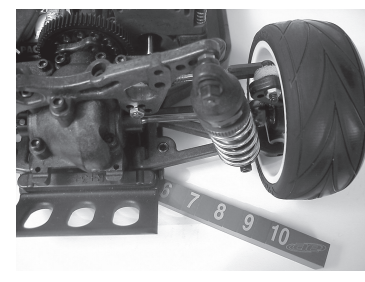

Fig. 4B, rear
4. Slide the gauge underneath the back of the car. Check both corners of the rear (fig. 4B).